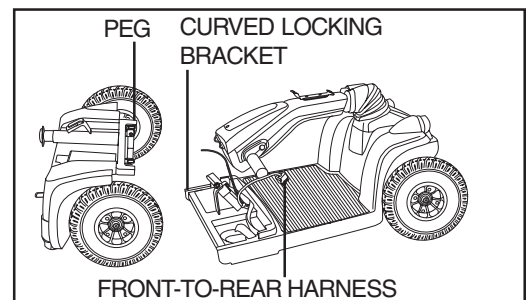

Figure 19. Frame Sections
1. Position the front and rear sections of your scooter as shown in figure 19.
2. Align the lower slots of the front section with the corresponding pegs on the front of the rear section. See figure 19.
**WARNING! Position the front-to-rear harness so it won't become pinched between the frame halves when pivoting the rear section forward. See figure 19.**